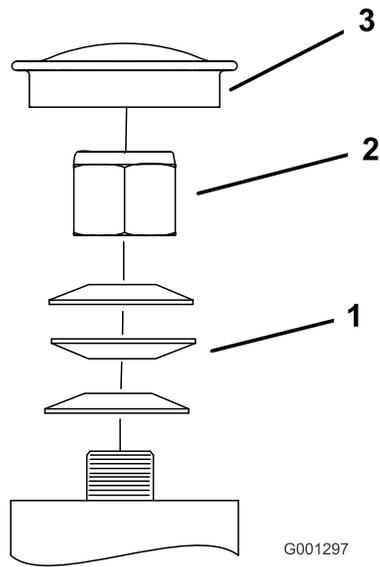

Figure 75
3. Remove the dust cap from caster and tighten the locknut (Figure 75).
4. Tighten the locknut until the spring washers are flat, and then back off a 1/4 turn to properly set the preload on the bearings (Figure 75).
- Important:** Make sure that the spring washers are installed correctly as shown in Figure 75.
5. Install the dust cap (Figure 75).